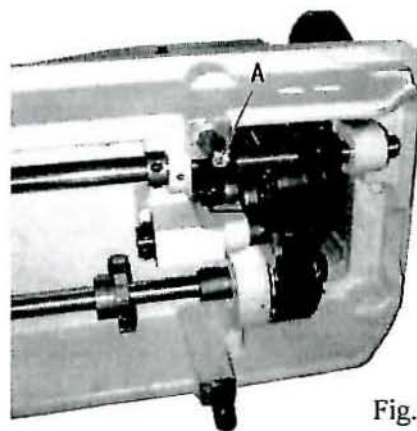

Fig.1
2. SETTING UP THE MACHINE (Fig. 1)